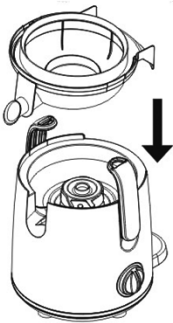
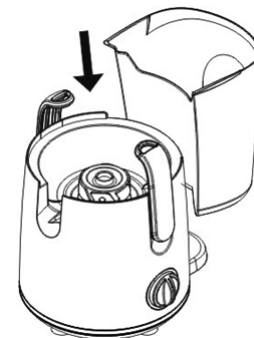

Fig. 1
Fig. 2
- Put the juice collector into the electric motor device of the machine body (Fig. 1), and put the residue keg into the juicer in the way of making it a bit tilted (Fig. 2). First put its top part in, and then push its bottom part to the position.